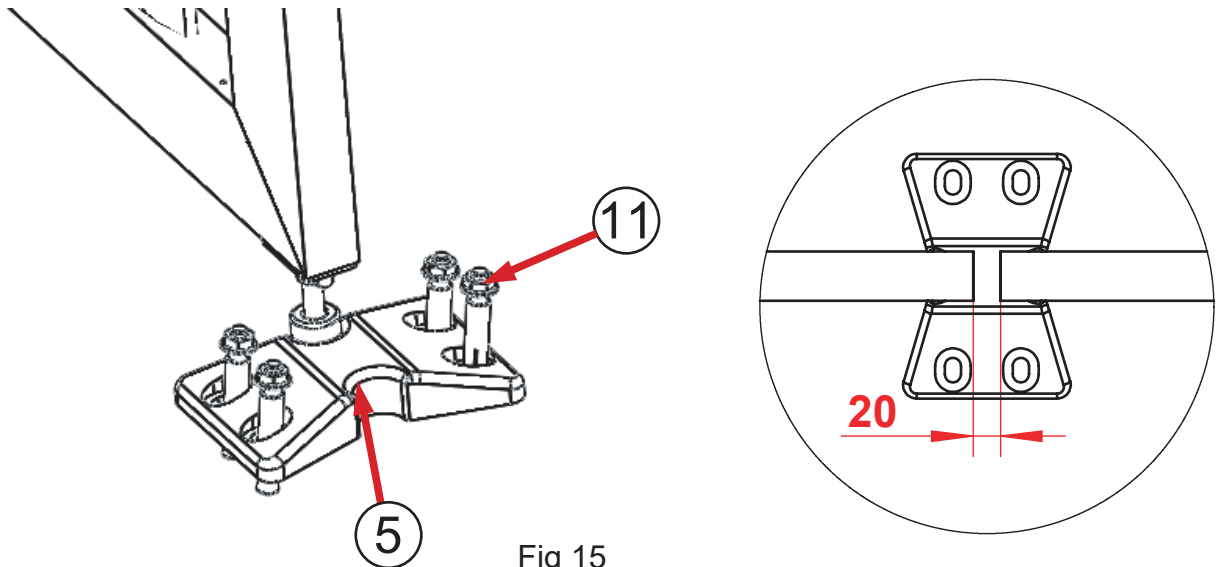

Fig 15
14. Close the door to the correct position, use pen or other tools to mark the position of the rubber stopper hole, and drill with a $\phi 10$ drill bit. And then install the ⑤ rubber stopper with ⑪ M8*80 expansion bolt as Fig 15.